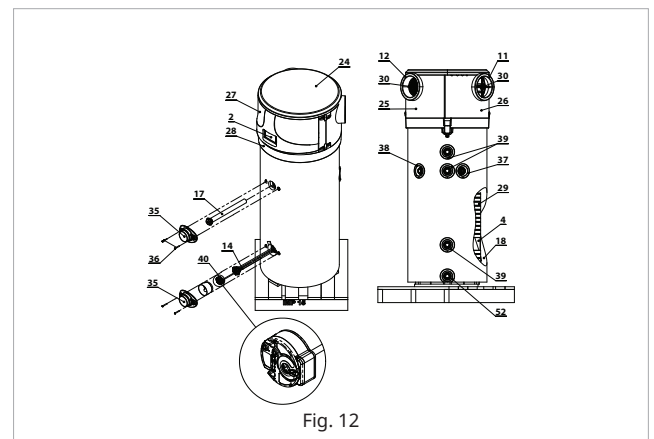

Fig. 12
- Remove the plastic cover 35 by undoing the appropriate locking screws 36 (Fig. 12);
- Manually reset the safety thermostat 40, by pushing the button as shown with (Fig. 12).